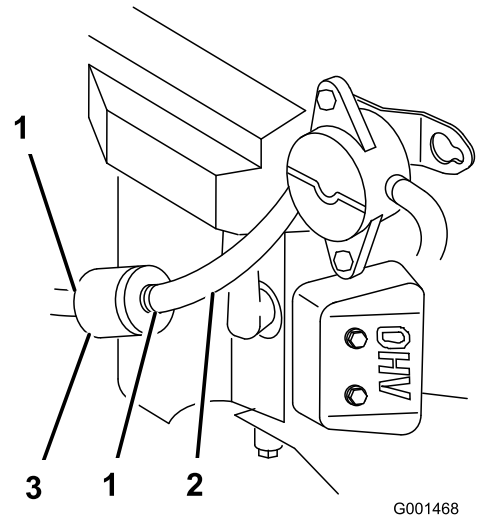

Figure 29
4. Squeeze the ends of the hose clamps together and slide them away from the filter (Figure 29).